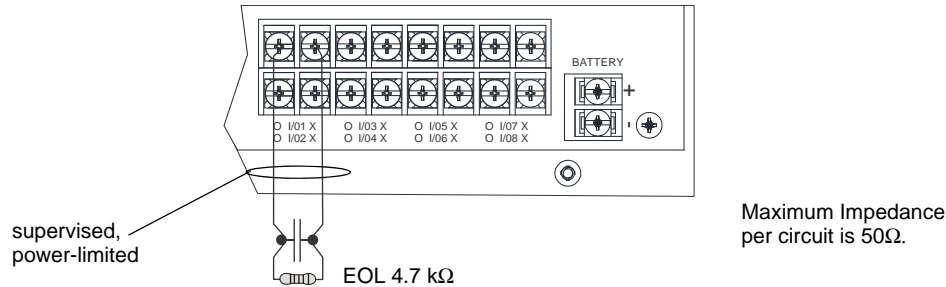

Figure 4.40 Class B Input Switches
1. Wire the Class B switch as shown in Figure 4.40.